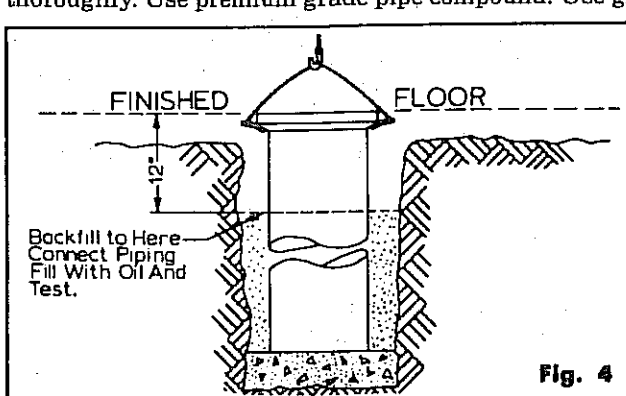
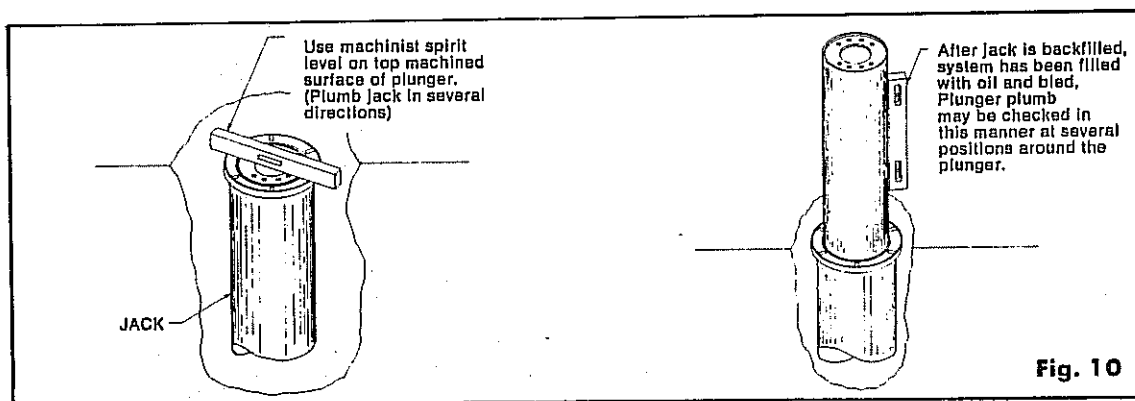

Fig. 4
Fig. 10
Continue with backfill around jack using clean sand (never use cinders). After each foot of backfill, tamp solid and recheck plumb and elevation. See Fig. 10. Continue backfill to approximately 12" from top of jack protector ring leaving room to make oil or air line connection. See Fig. 4. Fill inside of "H" series plunger with dry sand for lowering ballast.
30. Bend sling lugs down below finished floor grade. See Fig. 4.